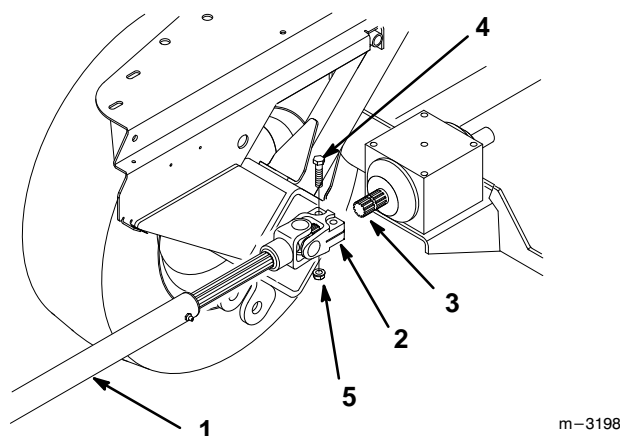

Figure 5
1. Secure universal joint to gearbox shaft with (2) 3/8"-16 x 1-5/8" (41.5 mm) bolts and 3/8"-16 locknuts (Fig. 5).
1. Remove (2) 3/8"-16 x 1-5/8" (41.5 mm) bolts and 3/8"-16 locknuts from universal joint and slide the driveshaft off gearbox shaft (Fig. 5).